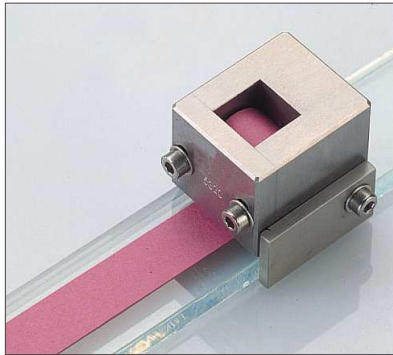

Figure 2. Applying the coating using an Elcometer 3505
4. Apply the coating to the glass plates using an Elcometer 3505 Cube Film Applicator^a (Figure 2).